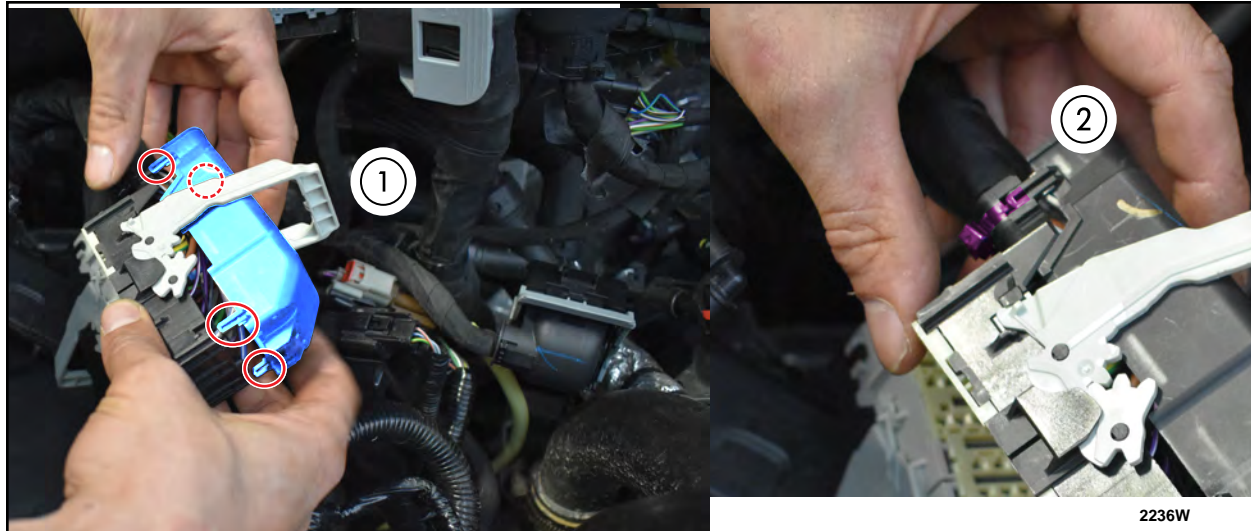

FIGURE 29
34. Using a small flat-head screwdriver, remove back shell from 50-way black connector. There are a total of 4 tabs that will need to be released. Cut and remove zip-tie from 50-way black connector (C1035B). See Figure 29.